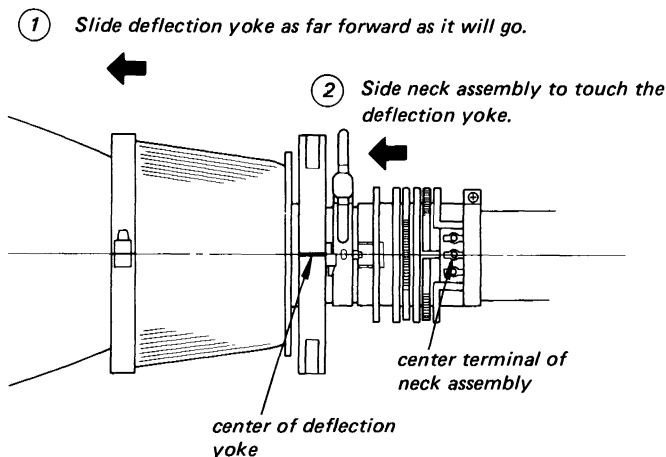

Fig. 3-1
- (1) Degauss the whole chassis.
- (2) Set the three deflection yoke and neck assemblies as shown in Fig. 3-1.
- (4) Tighten the deflection yoke screw in position.
- (5) Position the green neck assembly as shown in Fig. 3-1. and tighten the neck assembly screw in position.